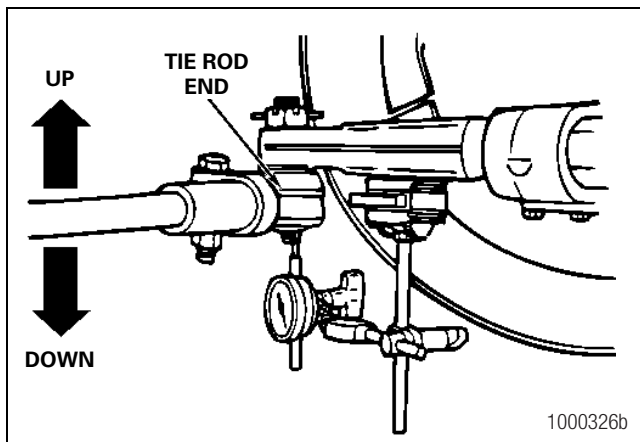

Figure 5.7
5. Place the indicator tip near the tie rod end greasing fitting. Figure 5.7. Set the dial indicator on ZERO.